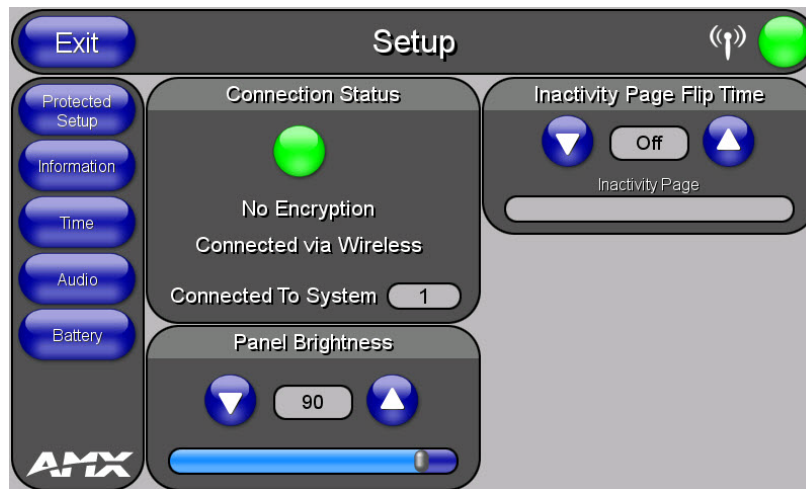

FIG. 12 Setup page
1. At any time, use the device's stylus to press down and hold the reset button on the left side of the device for 3-5 seconds. This opens a release notice to release the button immediately to open the *Setup* page (FIG. 12).